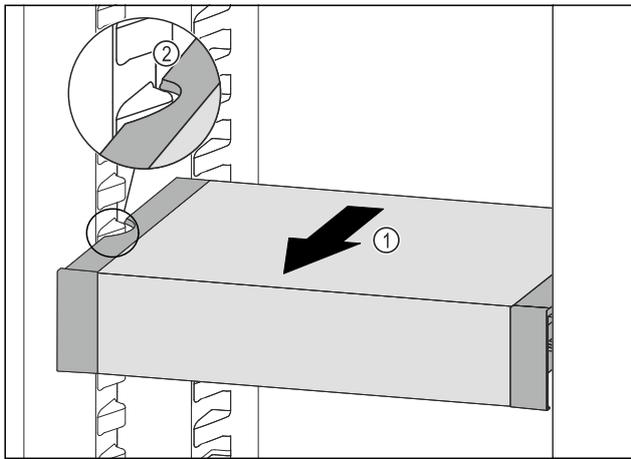

Fig. 99
- ▶ Pull VarioSafe forwards Fig. 99 (1) until the recesses in the side of the VarioSafe are at the level of the support rib in the fridge section. Fig. 99 (2)